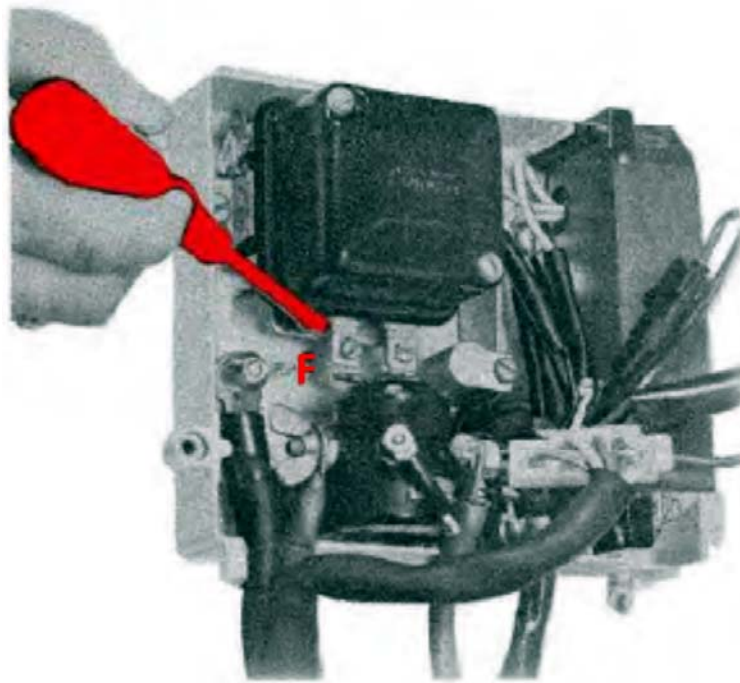

Figure 32
1. The AC generator can be checked for output by shorting between the regulator “F” terminal and ground with a screwdriver. (Fig. 32).